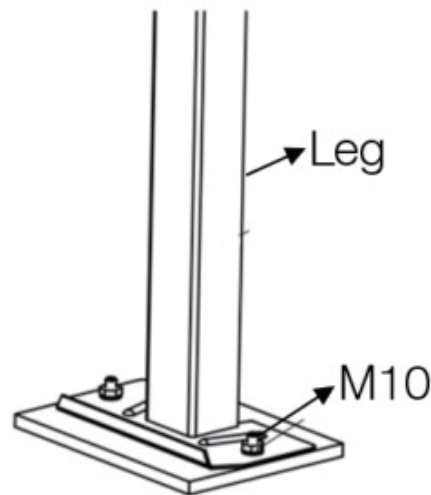

Figure 15
- Move the product in its final position and fix it using washers and screws (not provided, recommended size M10). Figure 15